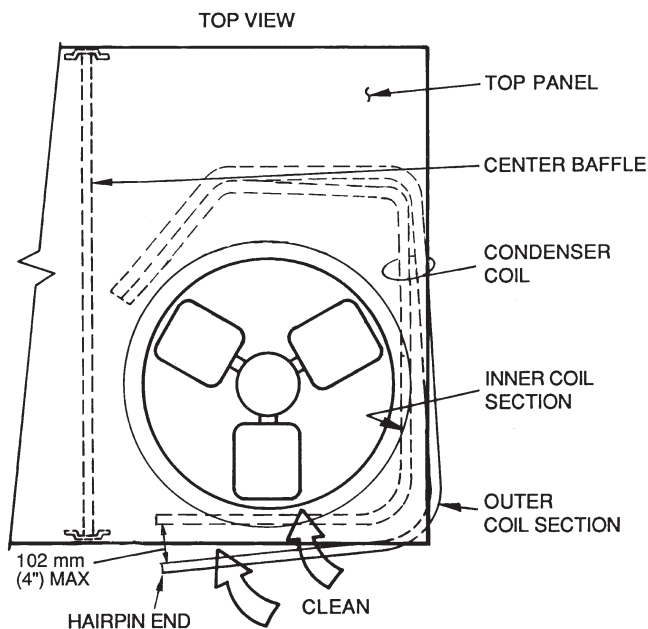

Fig. 21 — Separating Coil Sections
2. Remove fastener holding coil sections together at return end of condenser coil. Carefully separate the outer coil section 3-in. to 4-in. from the inner coil section. See Fig. 21.